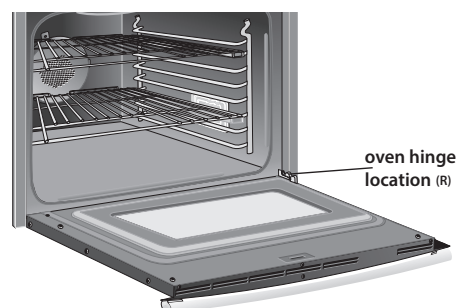

Figure 38: Oven hinge locations
1. Open oven door completely (Figure 38).
3. Open the oven door down to the fully open position. (Figure 38).